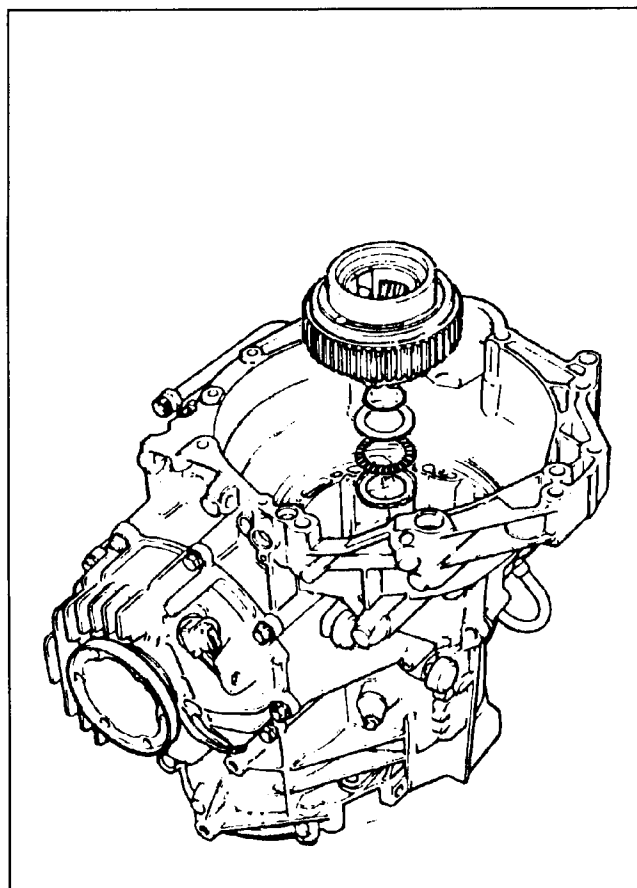

Figure 142
7. Install the bearing race and the torrrington bearing onto the output ring gear and secure with a small amount of Vaseline (See Figure 142).